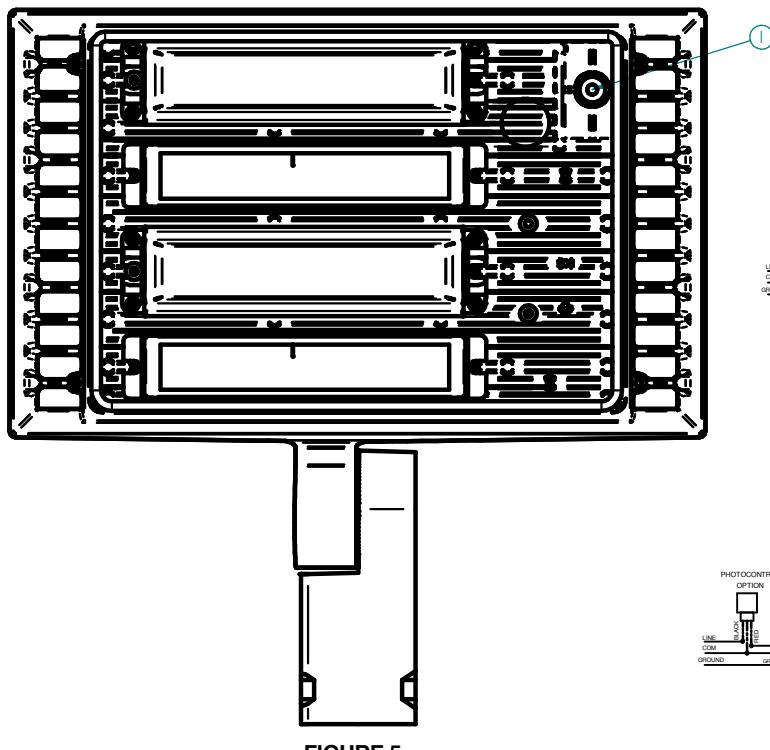

FIGURE 5
- Remove the front plate and drill an 11/16" (0.6875") diameter hole on the location provided (Item 1, Fig 5).